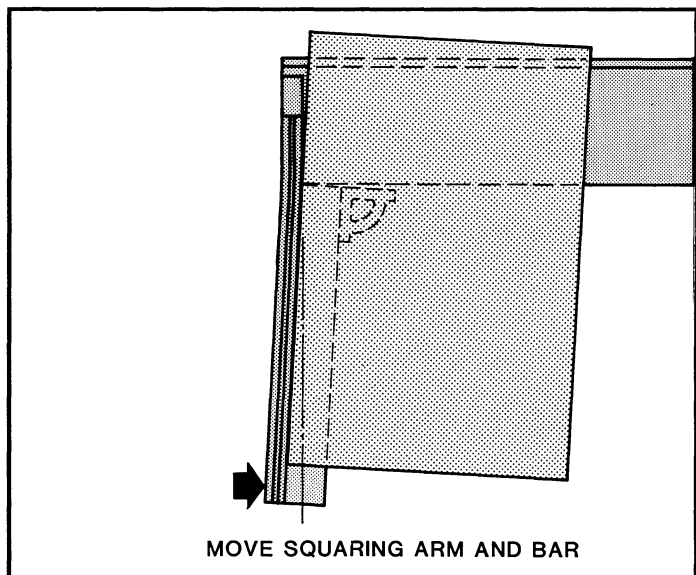

FIGURE 9-33 - Move squaring arm and bar
- B. Sheet lays on table and against the squaring arm bar as shown on Figure 9-33.
Use the procedure outlined on Page 9-15 under "A", except the initial movement of the squaring arm is to the right as shown on Figure 9-33.